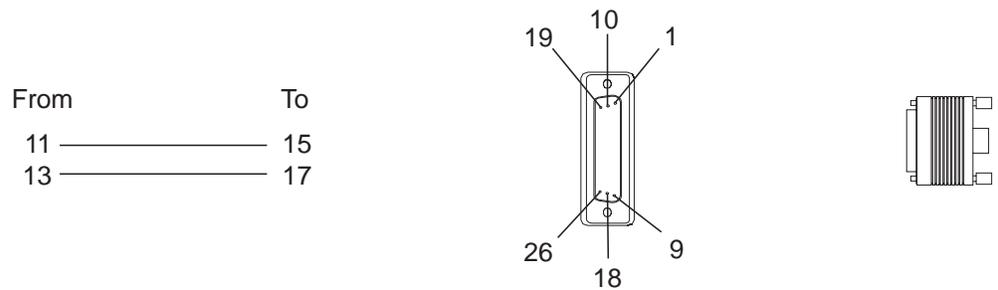

Figure 2-144. LIC567 Wrap Plug Assignment
- Two AWG 24 twisted pairs, 120 ohms (see Figure 2-144 on page 2-106).